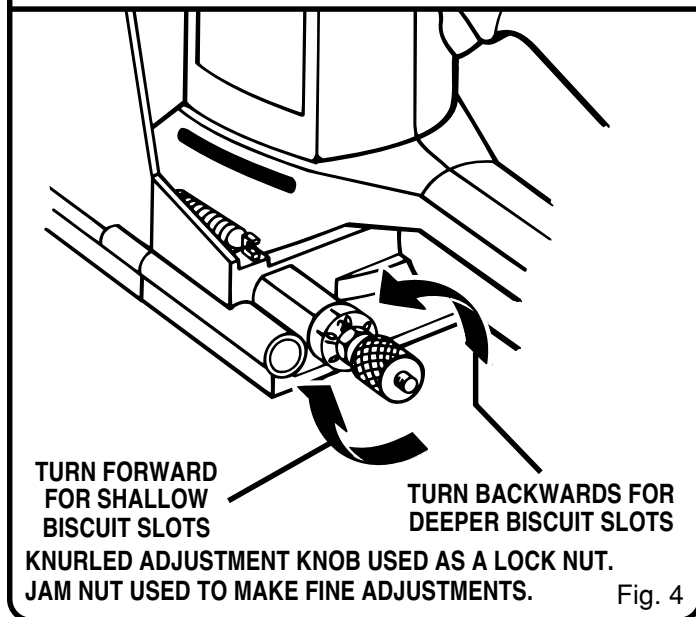

Fig. 4
See Figure 4.
5. Recheck depth setting by making a test cut in a scrap piece of wood. Also periodically check depth setting for accuracy. See Figure 4.